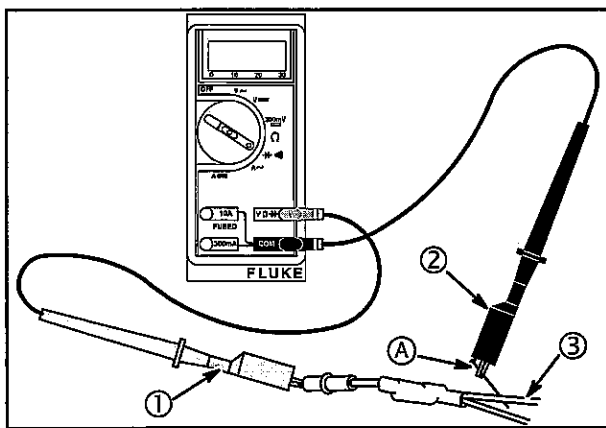

Fig. 21
4. Attach BLACK test lead clip (2) to point A of the RED wire (3), Fig. 21. (It may be necessary to pierce wire with a pin as shown.)
5. Insert RED test lead (1) into harness connector.